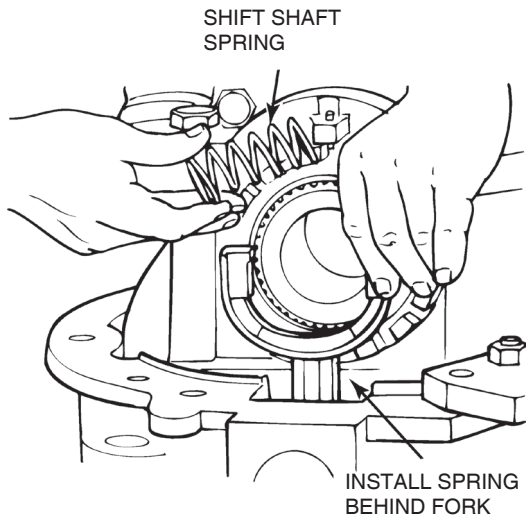

Figure 6.17
2. Compress the shift shaft spring as required and install it between the back of the fork and differential wall inside the differential. Figure 6.17.